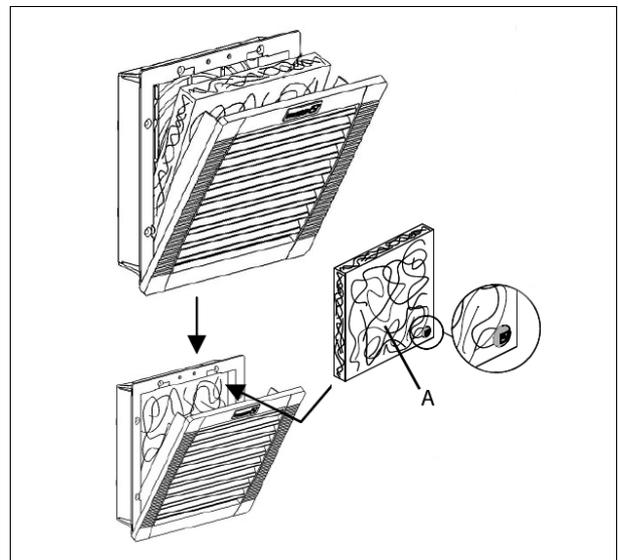

Fig. 28
- Insert the new filter pad into the louvred grille. Ensure that the smooth side (-A- Fig. 28) of the filter pad faces the air inlet side.